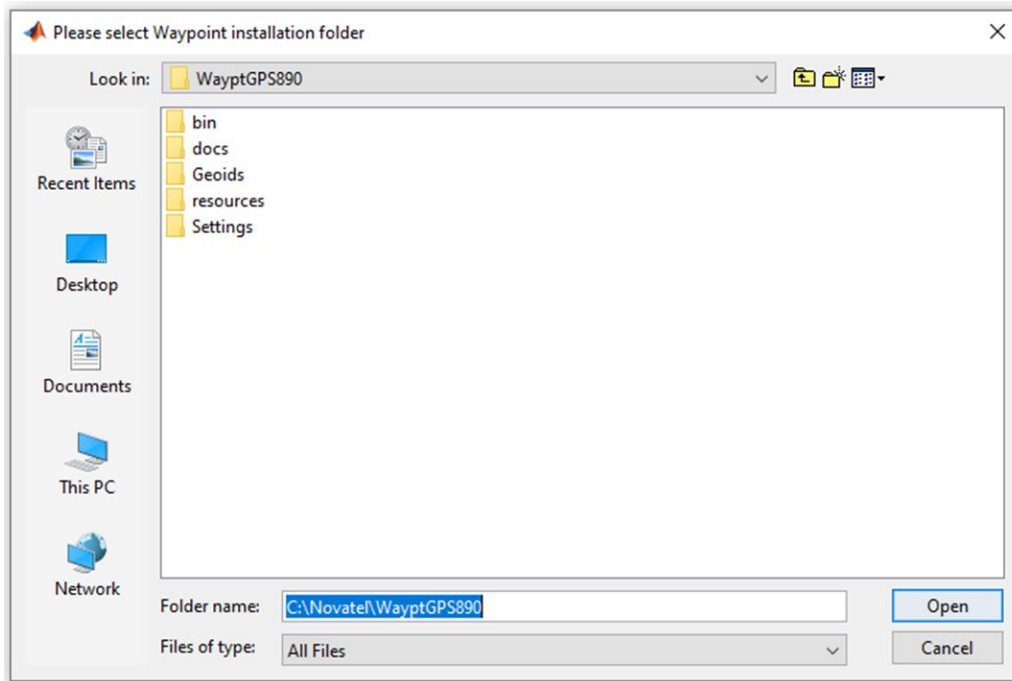

Figure 2-12 Waypoint Folder Selection Dialog
7. The **Please select Waypoint installation folder** browser (Figure 2-12) appears.